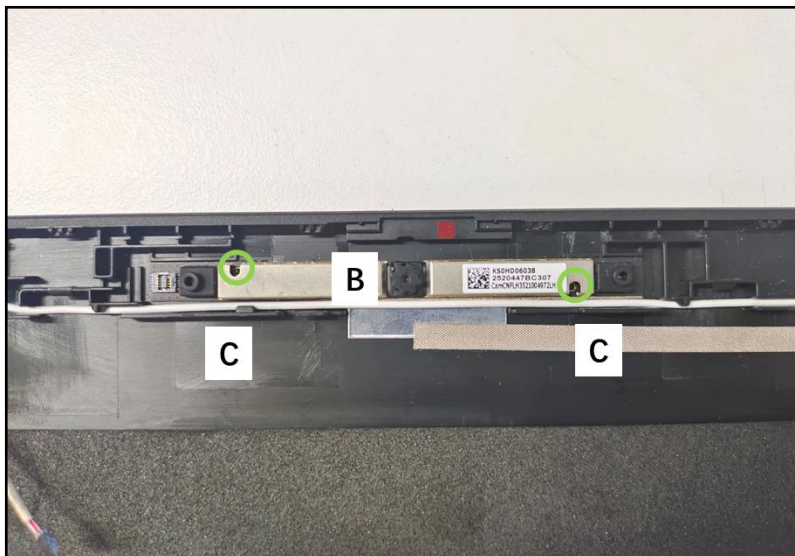

Figure 3-69. Replacing the Camera Module
2. By aligning with the guide pins (C), install the camera module (B) onto its compartment on the LCD bezel (Figure 3-69).